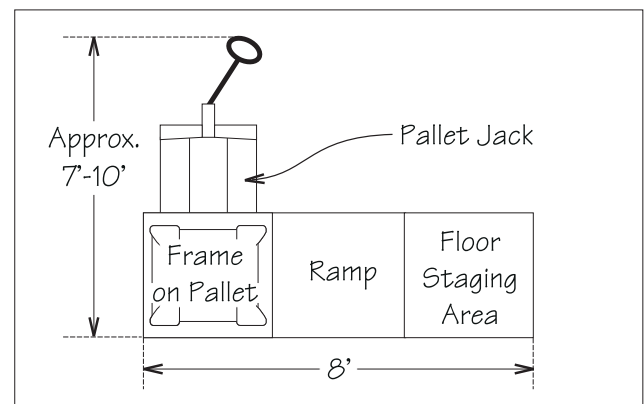

Fig 3-1 Staging Area
2. **Staging Area** - A smooth, level floor surface is required to position the frame pallet, remove the packaging materials, install the ramp, and for *two people* to carefully roll the frame down the ramp, and onto the floor. See Figure 3-1 below for staging area dimensions.